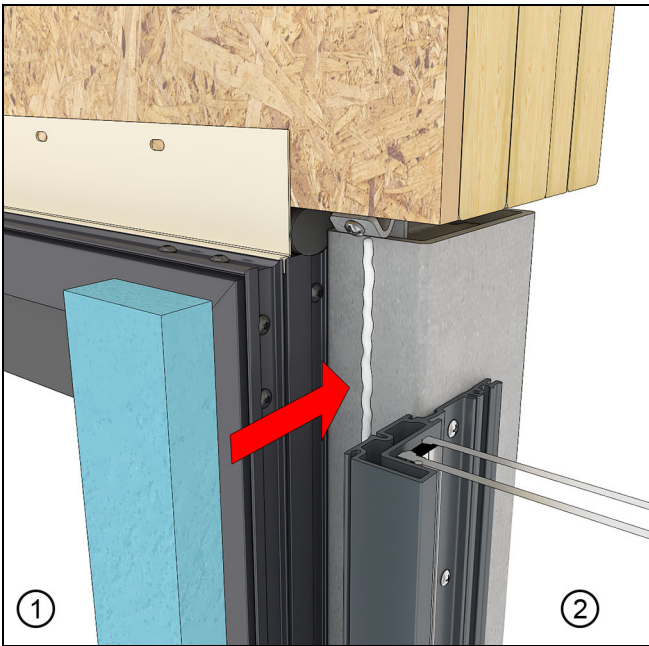

Figure 1
1. From the exterior, apply sealant on the tube steel as shown. Cut a 1 3/4" wide strip of rigid foam to length and embed in the sealant against the mull. See Figure 1.